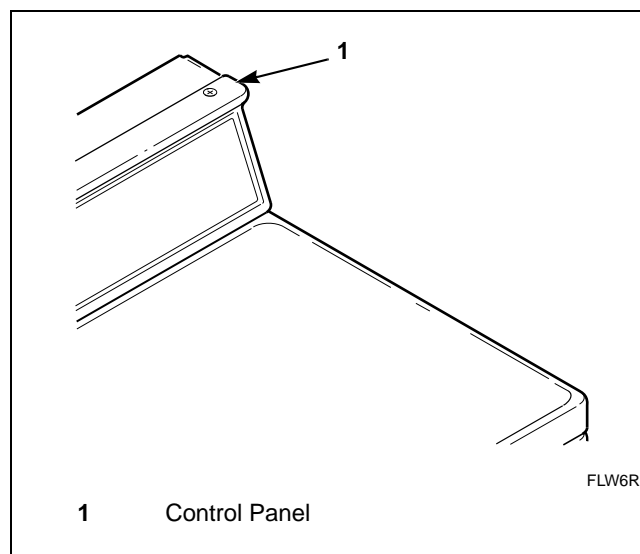

Figure 12
1. Open control panel. Refer to *Figure 12*.